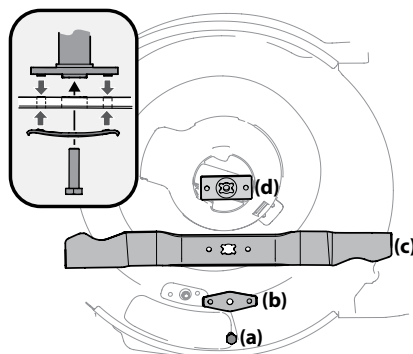

Figure 4-6
3. Remove bolt (a) and blade bell support (b) which hold the blade and the blade adapter to the engine crankshaft. See Figure 4-6.
4. Remove blade (c) and adapter (d) from the crankshaft. See Figure 4-6.